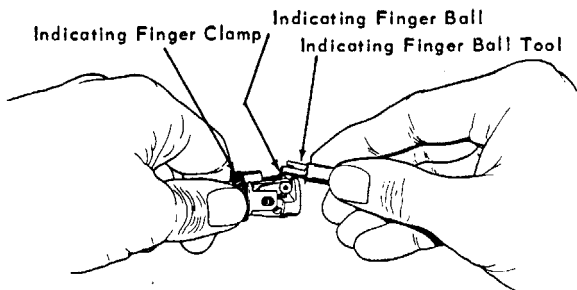

FIGURE 19
7. Be sure the Ball is seated by pressing against it firmly with the back of the Ball Tool (see Figure 19).